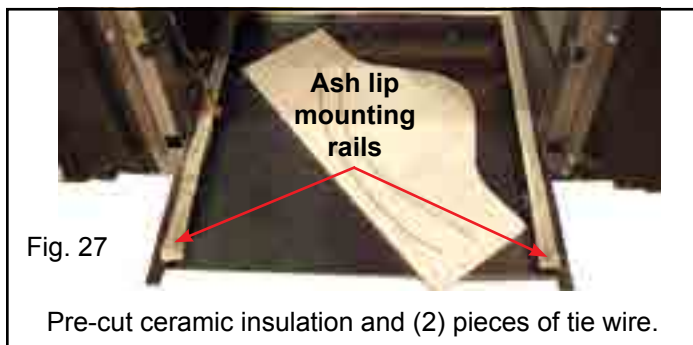

Fig. 27
14. Install the flue pipe insulation wrap. See Fig. 27. This ceramic insulation is precut to form around the flue pipe stub, to reduce heat transfer into the area around the rear of the hopper and motor area. **This insulation must be installed in all configurations, even if a rear discharge is used.** See Fig. 29.